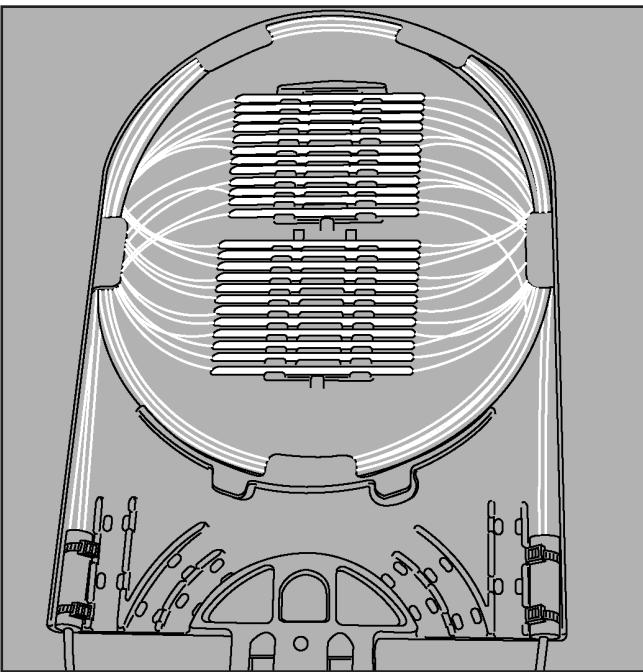

Figure 18
18. Continue the practice until the splice tray has been filled (24 splices). Introduce additional splice trays as required. (Figure 18)